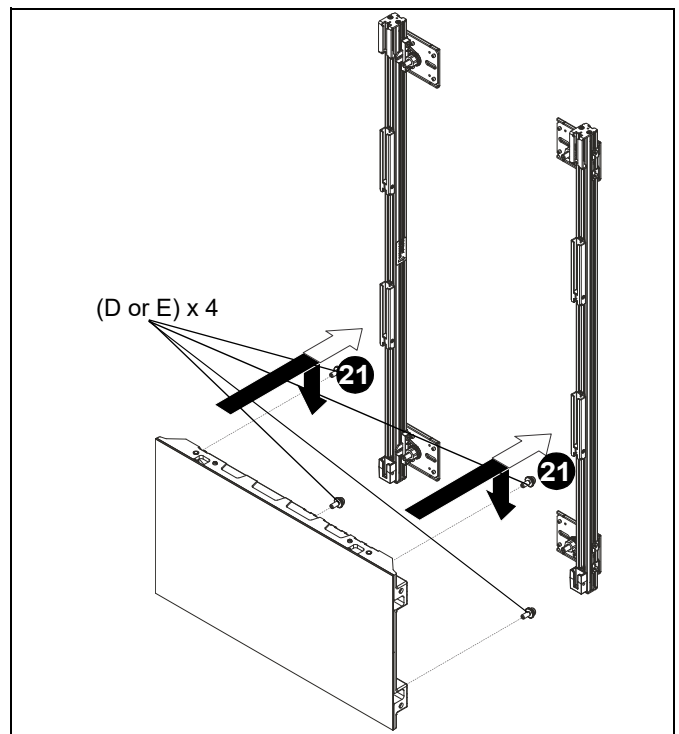
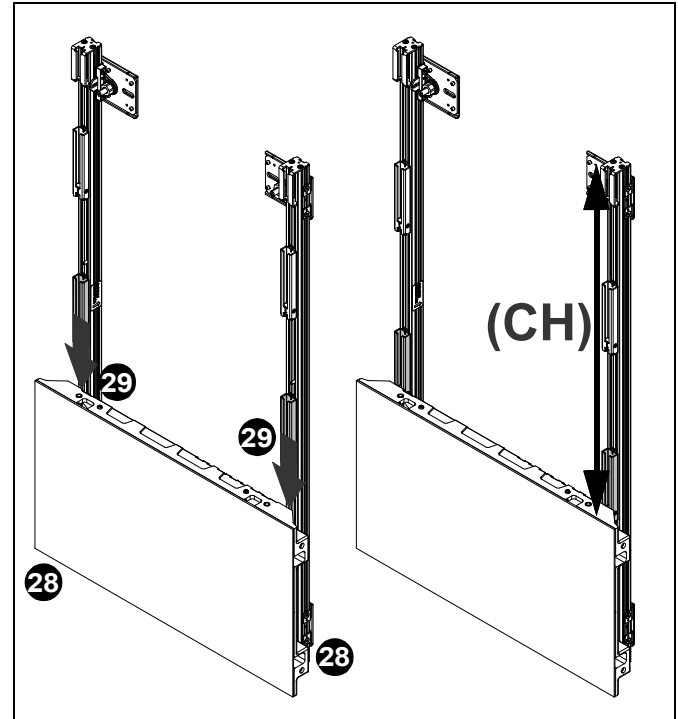

Figure 9
Figure 11
- (Optional) Install four mounting buttons (D or E) onto back of a display (if available) and install onto H-blocks to ensure the uprights are properly distanced. (See Figure 9) and (See Figure 11)
27. Install mounting buttons (D or E) into one display to be installed. (See Figure 9)
28. Install display to mount by inserting lower mounting buttons into the base carriages. (See Figure 11)
29. Slide the H-blocks down the extrusion to enclose the upper mounting buttons. (See Figure 11)
30. Use a tape measure to determine coverage height (CH), which is the distance from the top of display to the top of mounting column. (See Figure 11)
31. Compare the coverage height (CH) with remaining display height to determine whether column height needs to be adjusted.